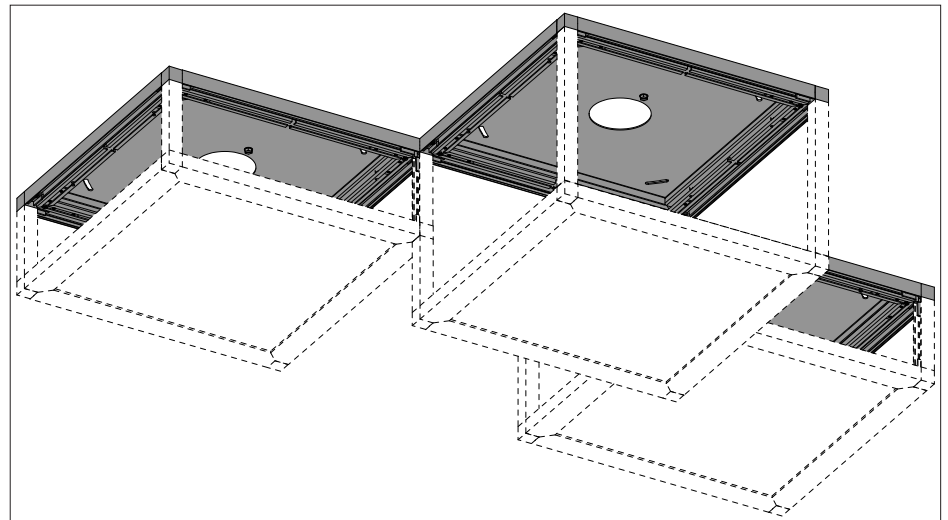

Fig. 2b
- 5c. Section as part of whole assembly shown in Fig. 2b.